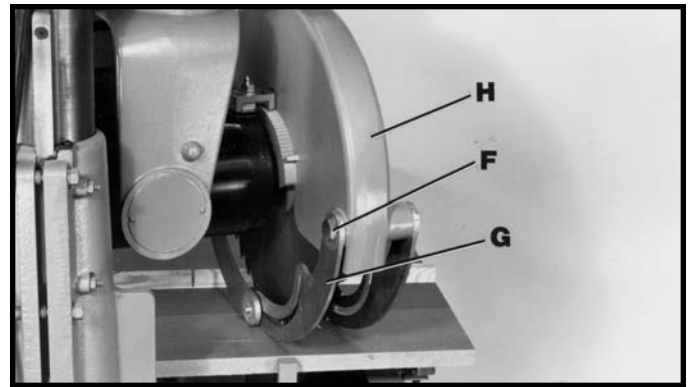

Fig. 26
6. Place leaf guard (G) Fig. 26, in place on blade guard (H) and fasten with special shoulder bolt (F) as shown.